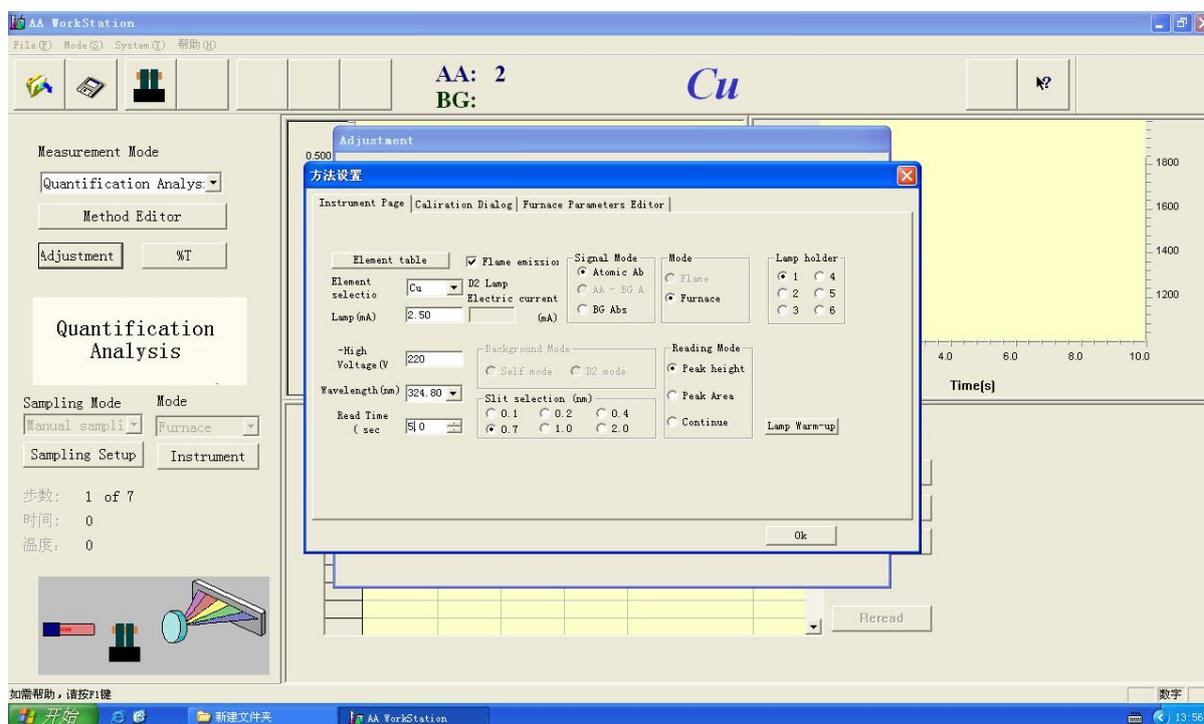

Figure 5-1a
2. Input the appropriate 'Read Time' value in the "Instrument Page" window (Figure 5-1a)